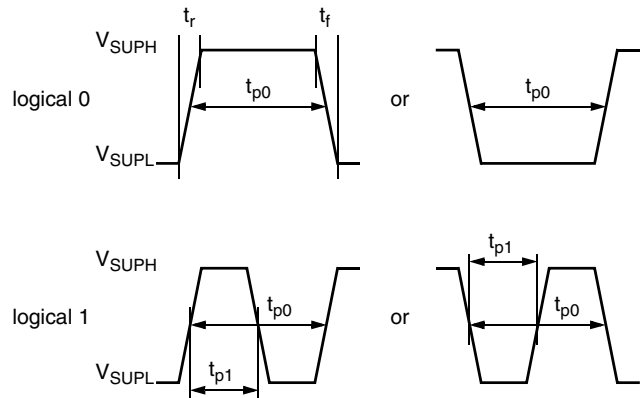

Fig. 6–1: Definition of logical 0 and 1 bit
- Write a register (see Fig. 6–2)
- Read a register (see Fig. 6–3)